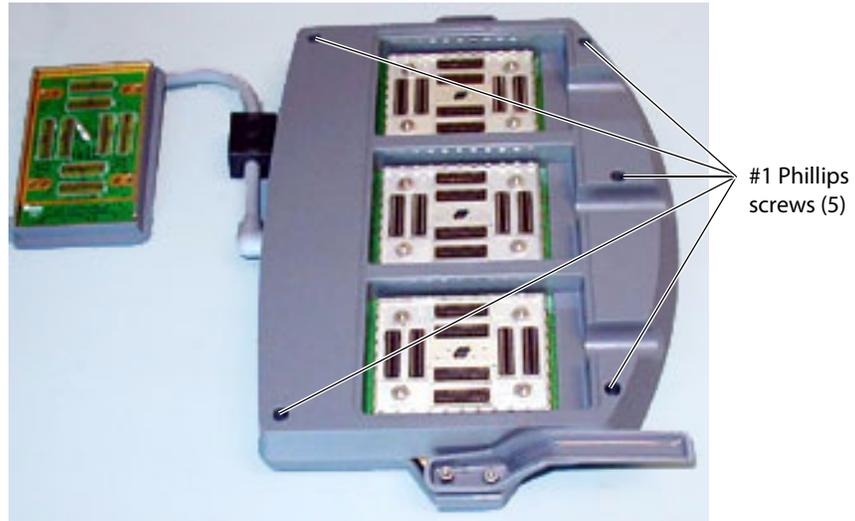

Figure 9.21 Triple Transducer Enclosure Screws
- 1 Remove the five (5) #1 Phillips screws securing the bottom enclosure to the Triple Transducer Connect per Figure 9.21.